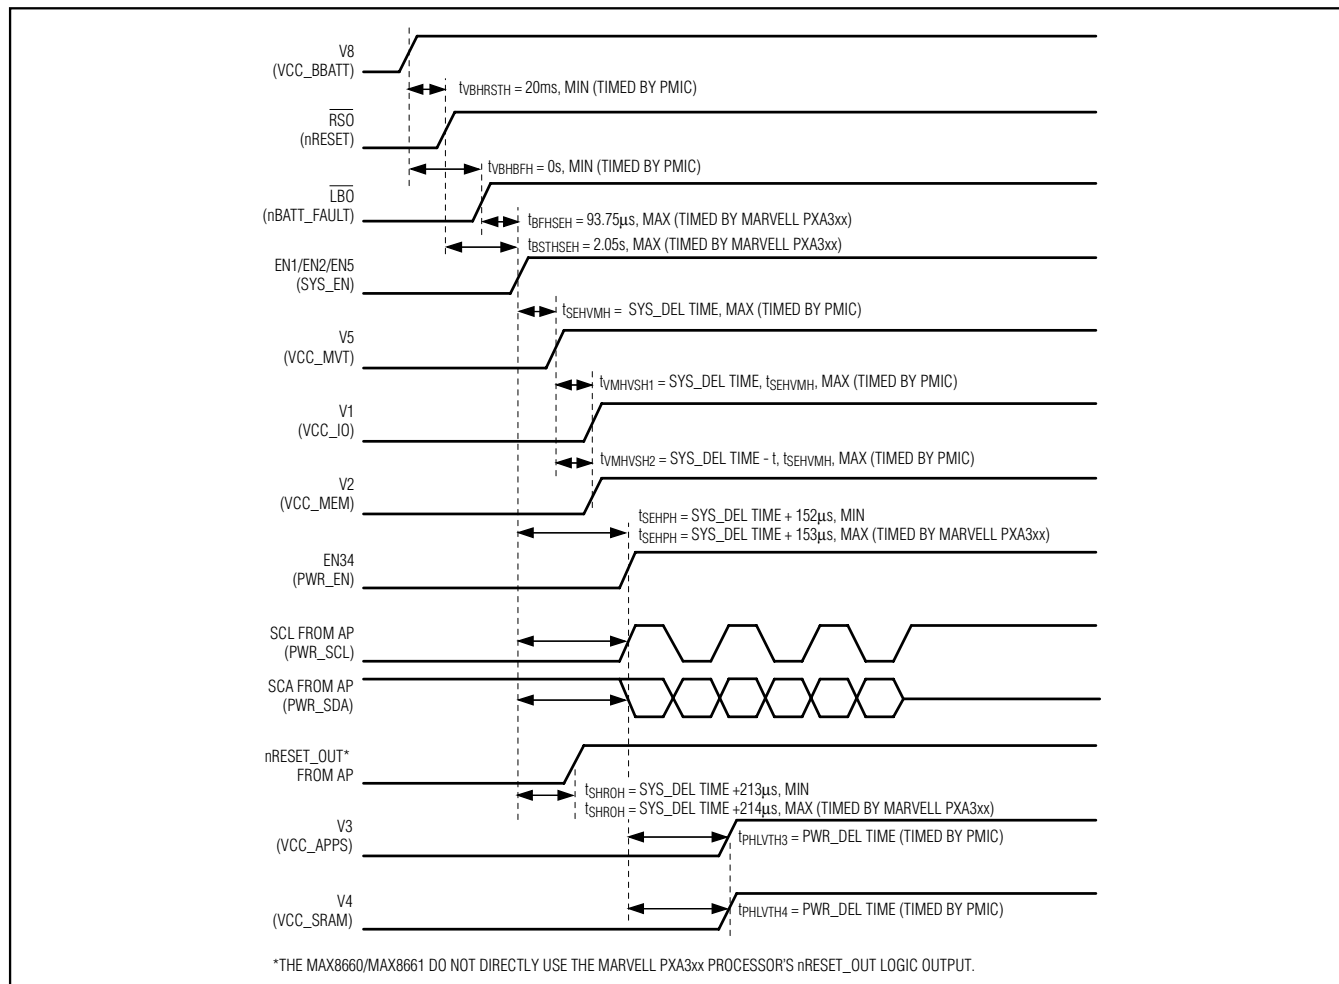

Figure 6. Power-Up Timing
Figure 6 shows the power-up sequence for the Marvell PXA3xx family of processors. In general, the supplies should power up in the following order:
- The PCFR register contains timers for the *SYS\_DEL* and *PWR\_DEL* timing parameters as shown in Figure 6. Each timer defaults to 125ms. When using the MAX8660/MAX8661, these timers may be shortened to 2ms to speed up the overall system wake-up delay.